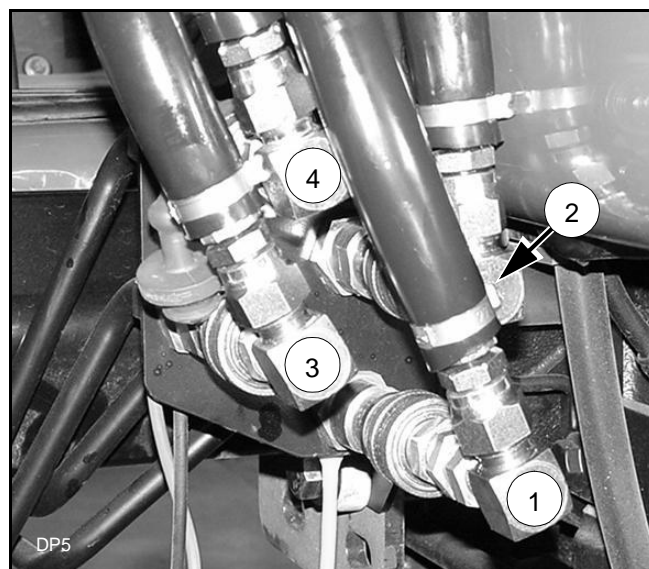

Figure 11 Hydraulic Hose Connection
1. Connect hydraulic hoses to tractor hydraulic couplers as shown in Figure 11.